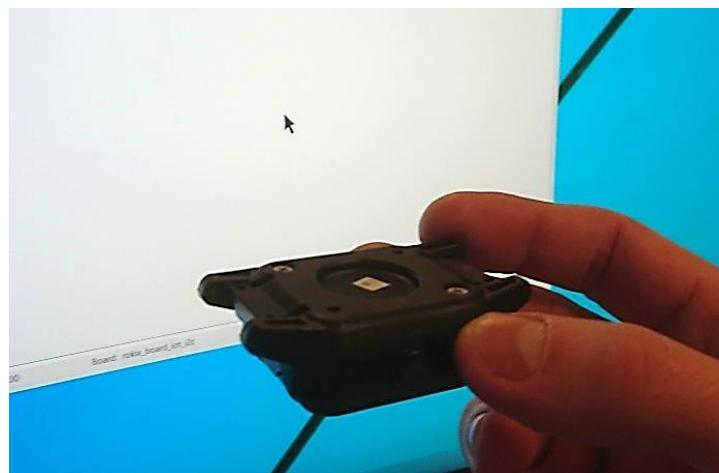

Figure 42: Reset Air mouse with RoKiX sensor node.
3. The Air Mouse is now reset to the *RoKiX Sensor Node*'s position. (Figure 42)